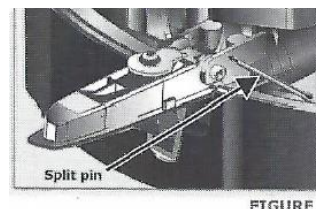

FIGURE 7
- Insert the split pin (supplied) through the hole in the gearbox. Fig 7